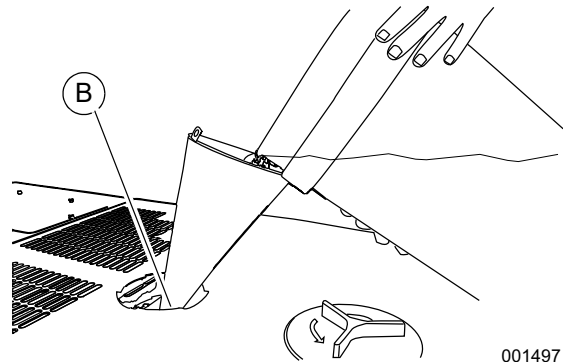

Figure 5-29. Fill Coolant System
2. See Figure 5-29. Turn and remove plastic cover at top of enclosure and insert funnel into filler neck (B).